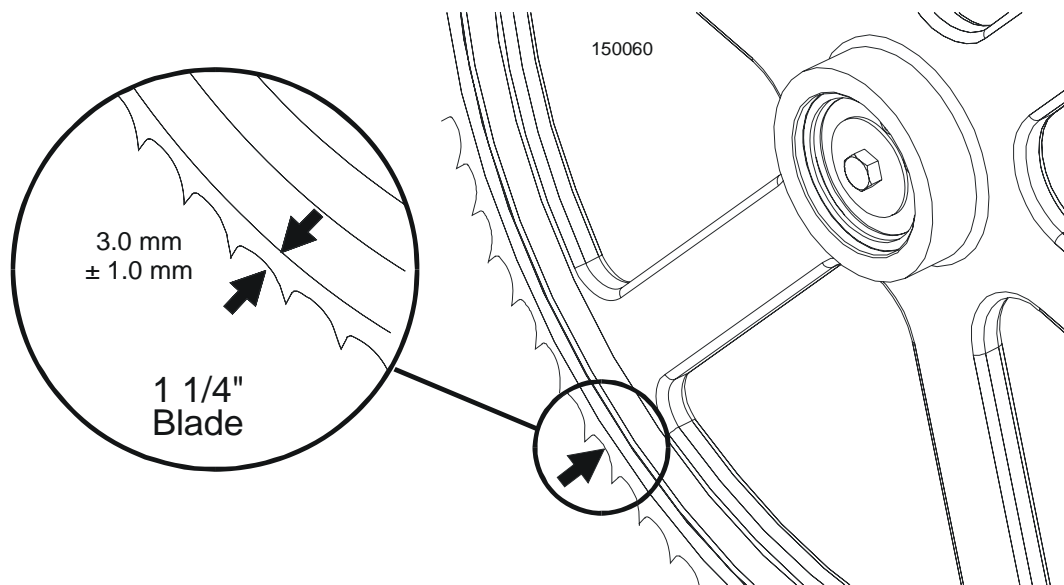

FIG. 5-10
**See Figure 5-10.** The vertical tilt of the blade wheel should be adjusted so that the gullet of 1-1/4" blade is 3.0 mm out from the front edge of the wheel ( $\pm 1.0$  mm).